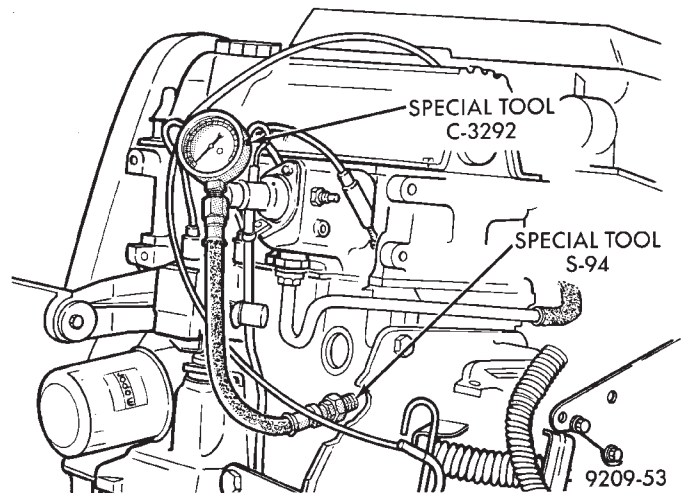

Fig. 15 Checking Oil Pump Pressure—Typical FILTER
(1) Remove pressure sending unit and install Special Tool S-94 with gauge assembly C-3292 (Fig. 15).
(2) Warm engine at high idle until thermostat opens.